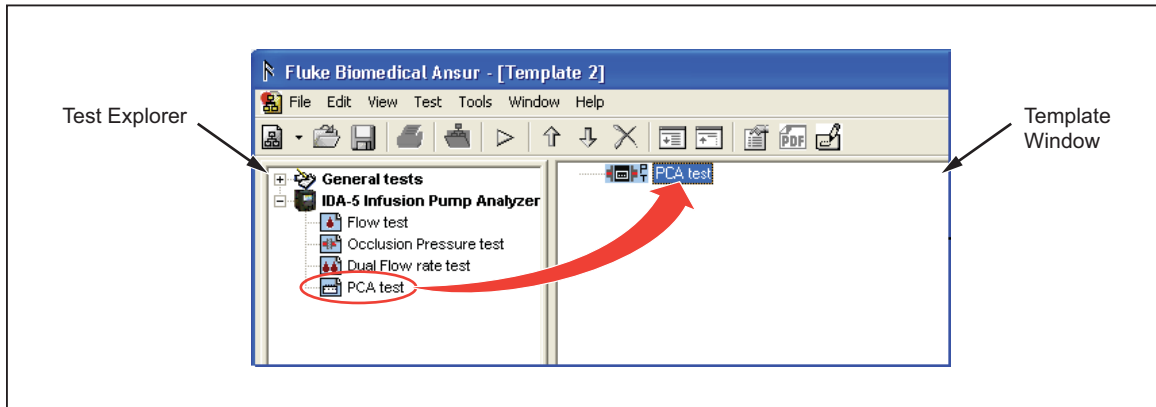

Figure 3-34. Creating a Test
4. Click and drag the test element into the blank area of the test template as shown in Figure 3-34.